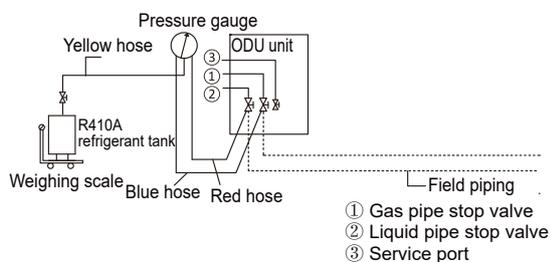

Fig 5.33
8. Flush the other openings in the same manner, working in sequence from indoor unit A towards the outdoor units. Refer to Fig.5.33